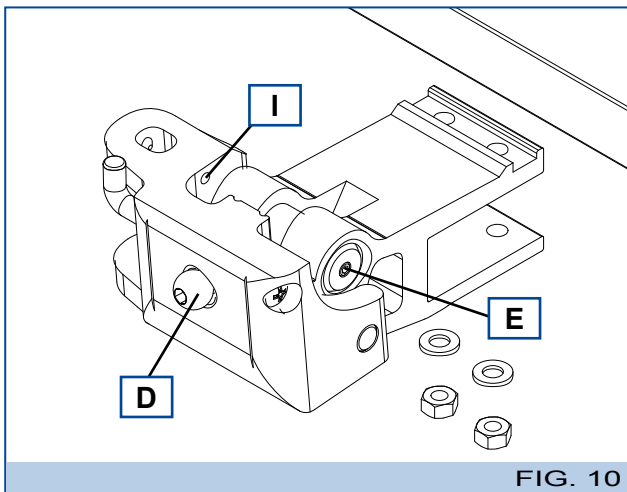
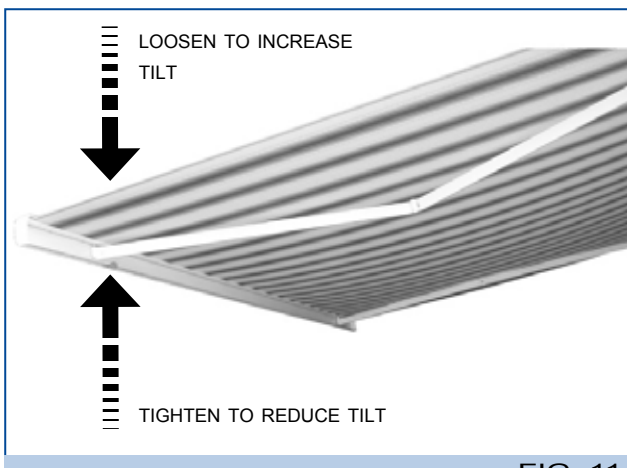

FIG. 10
FIG. 11
- 11▪With the awning open, adjust the screw (D-Fig.10) with a 6mm Allen wrench until the desired tilt is reached (see Fig.11).
- 13▪Once the desired tilt has been reached, fix the position of the awning by tightening the screw (E-Fig. 10) with a 3mm Allen wrench.
- 15▪ Tighten the grub screw (I) to raise the elbow of the arm, and unscrew to lower it.
- 16▪Once the correct parallel position of the arms has been found, tighten the grub screw (I-Fig.10) in both arm supports.